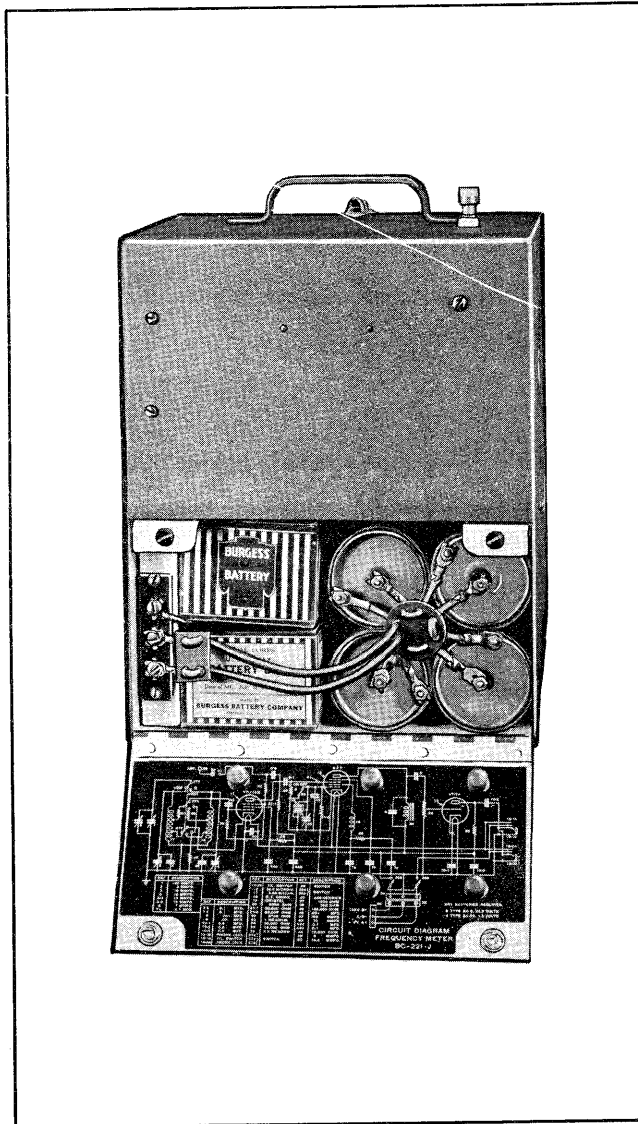
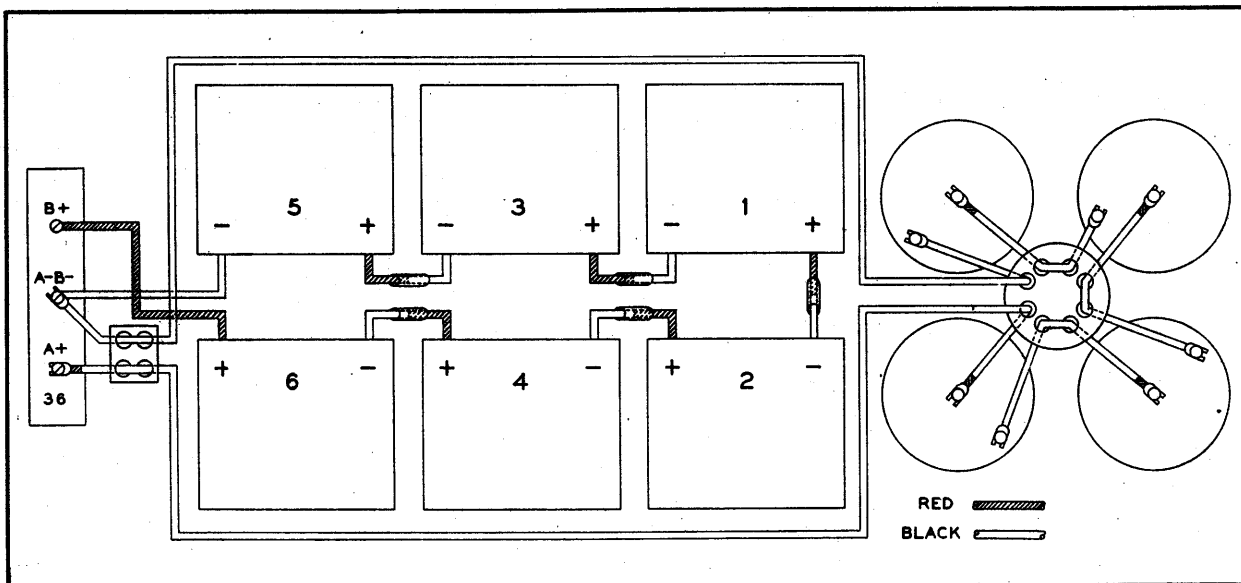

Figure 1-1. Frequency Meters BC-221-P and BC-221-T
Figure 2-1. Frequency Meter BC-221-(*)—Wiring of Batteries
c. Insert four Batteries BA-23 under the strap with their terminal posts facing out and push well forward. Turn the batteries so their terminals are in the positions shown in figure 1-1, and connect in series. (See fig. 2-1.)
e. Connect the six Batteries BA-2 in series as shown in figure 2-1. Tape all joints securely to prevent an accidental short circuit of any of the batteries and arrange the batteries in two layers of three each. Have